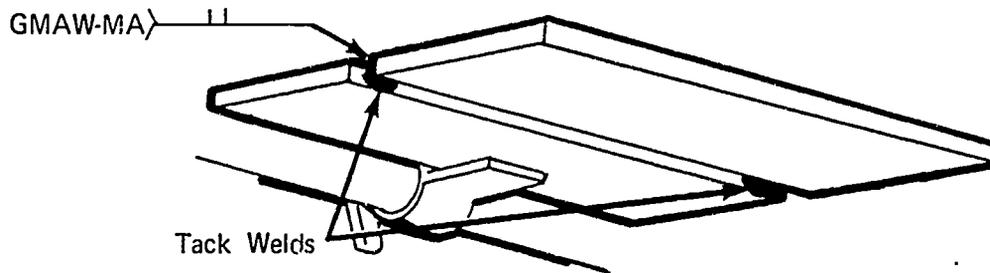

FIGURE 2
- E. Place metal in the overhead position for welding (Figure 2)